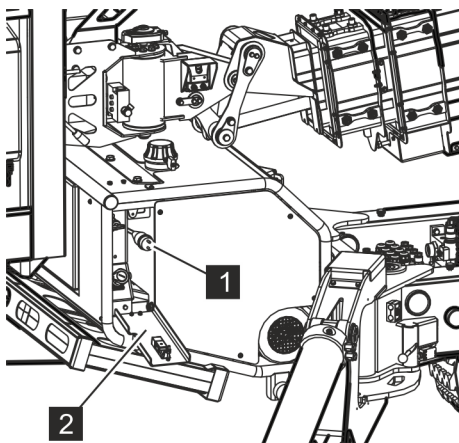

Fig. 43: Power connection
1. → Open the cover (Fig. 43/2).
2. → Connect the plug connector (Fig. 43/1) with an extension cable. In the process, adhere to the maximum cable lengths (↪ 'Cable lengths' on page 42).